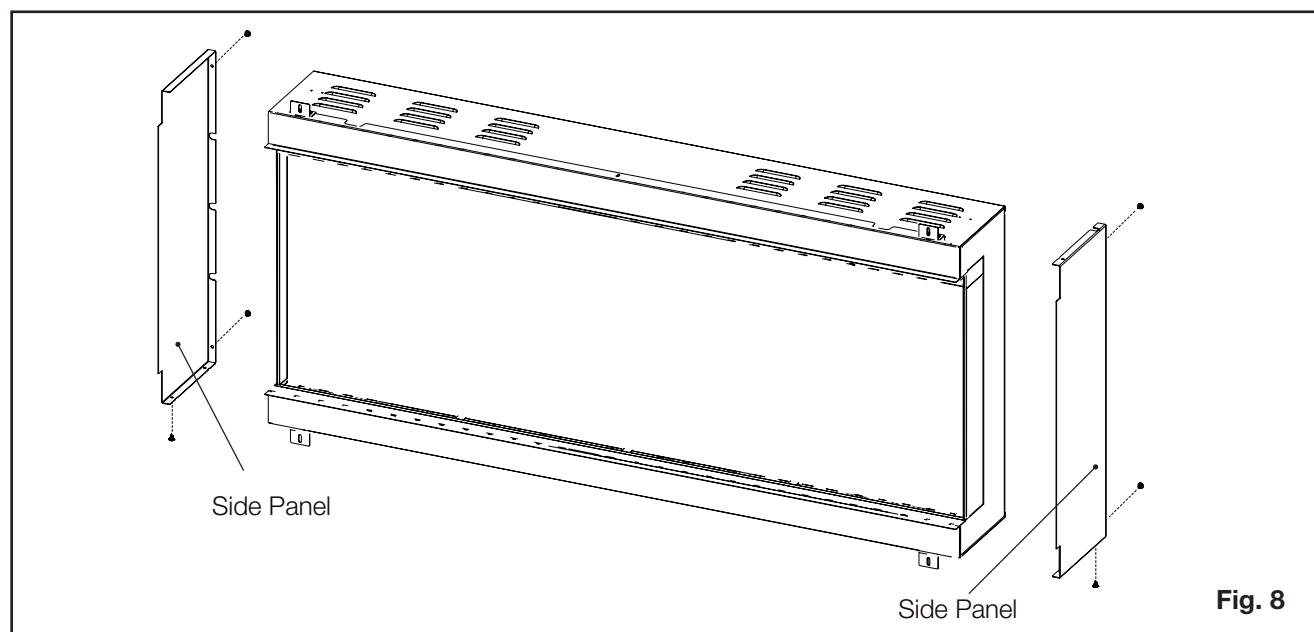

Fig. 8
1. Remove the screws from the back and bottom of the fireplace which align with the panel then secure the panels using the metal screws provided (**Fig. 8**).